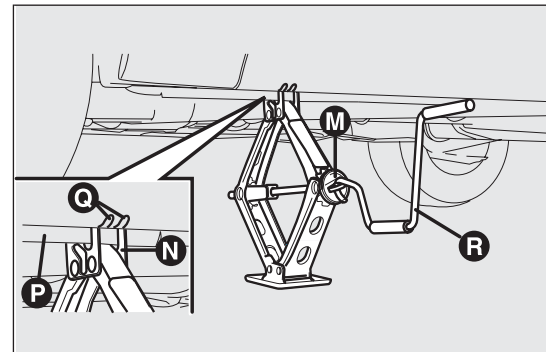

fig. 145
- ❑ operate device M fig. 145 so as to extend the jack, until groove N on the upper part of the jack fits correctly into the lower profile P visible on the car body next to the indication Q (at approx. 72 cm from the centre of the front wheel or 75 cm from the centre of the rear wheel);
- fit handle R fig. 145 to operate the jack and raise the car until the wheel is a few centimetres above the ground;
- turn the jack handle R fig. 145 to lower the car and remove the jack;